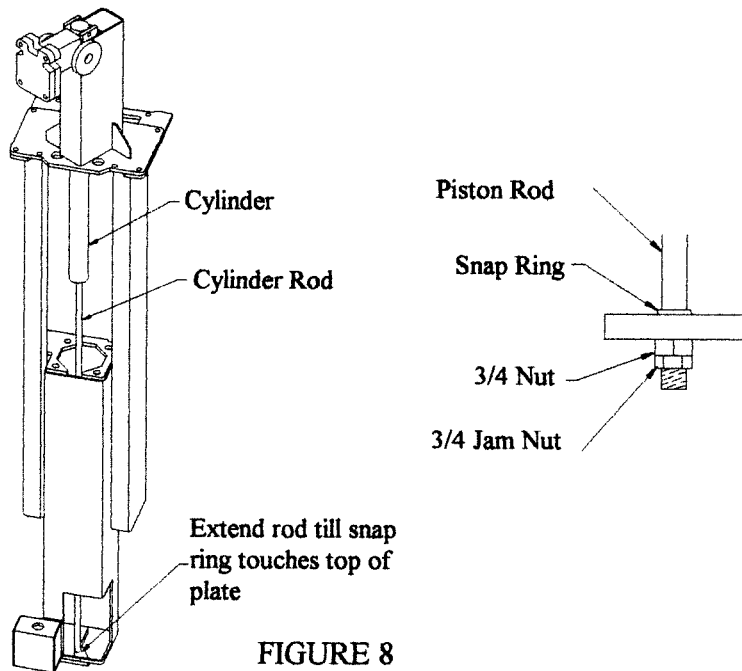

FIGURE 8
21. Pull each cylinder rod down and insert the threaded end into the mounting holes at the carriage base. Make sure the snap ring on the cylinder is in its groove. Pull the rod through the hole until the snap ring on the rod comes in contact with the carriage base plate. Attach a 3/4 NF nut to the threaded rod and tighten until the rod turns. Hold the 3/4 nut with a wrench and tighten a 3/4 NF jam nut against it. See Figure 8 on the following page.